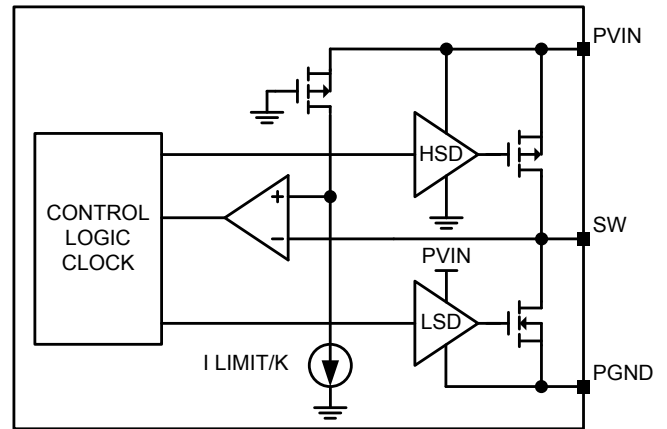

Figure 5. Current-Limit Detail
The circuit in Figure 5 describes the operation of the current limit circuit. Since the actual RDS(ON) of the P-Channel MOSFET varies part-to-part, over temperature and with input voltage, simple IR voltage detection is not employed. Instead, a smaller copy of the Power MOSFET (Reference FET) is fed with a constant current which is a directly proportional to the factory set current limit. This sets the current limit as a current ratio and thus, is not dependant upon the RDS(ON) value. Current limit is set to nominal value. Variations in the scale factor K between the Power PFET and the reference PFET used to generate the limit threshold account for a relatively small inaccuracy.